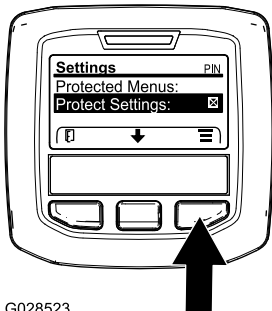

Figure 29
1. From the MAIN MENU, use the center button to scroll down to the SETTINGS MENU and press the right button (Figure 29).